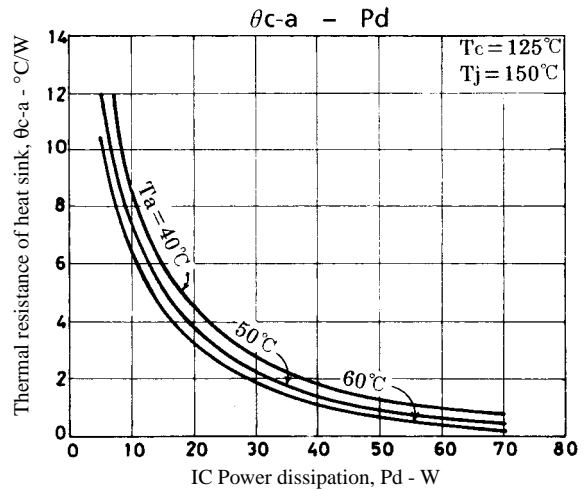

Figure 3. STK4112II θc-a - Pd
Figure 3 shows the relation between Pd and θc-a given from (1) and (3) with Ta as a parameter.
The thermal resistance of a heat sink is obtained from Figure 3.